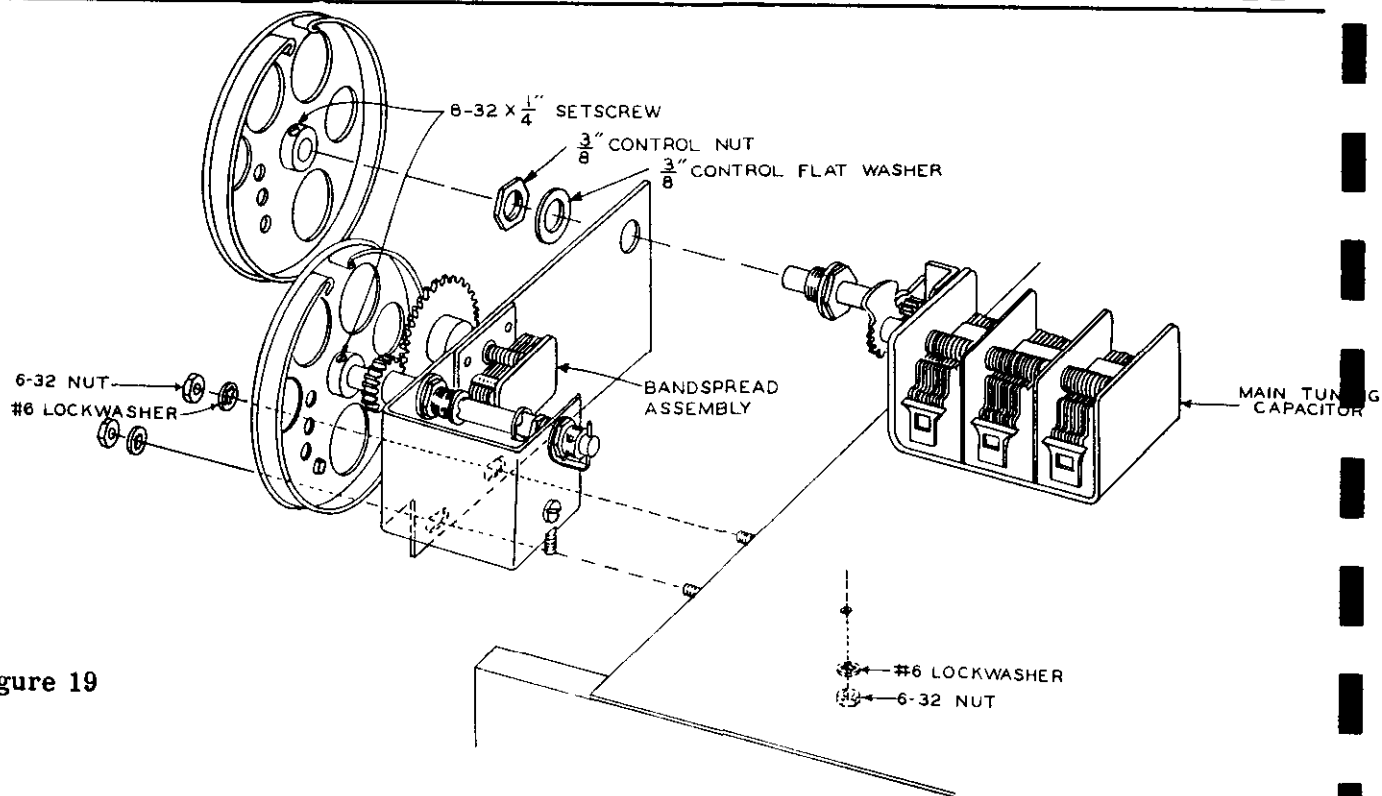

Figure 19
- (✓) Mount the bandspread bracket to the top plate and main frame, as shown in Figure 19. Place #6 lockwashers and 6-32 nuts on the two screws protruding through the slotted holes, and a #6 lockwasher and 6-32 nut on the spade lug. Align the bracket so that the bandspread pulley is parallel to the chassis partition, and the main tuning capacitor shaft horizontally centered in the elongated bracket hole. Push the main tuning capacitor bushing forward into the hole and lightly secure with a 3/8" control flat washer and nut. Now tighten the three 6-32 nuts and main tuning capacitor bushing. It is important at this time that both tuning shafts turn freely. It may be necessary to loosen and reposition the bracket, bushing, or three tuning capacitor mounting screws to accomplish this, but the effort is very worth while if smooth operating performance is to be expected.
- (✓) See Figure 19 and place an 8-32 x 1/4" Allen head setscrew in one of the 3" dial string pulleys. Install this pulley, hub first, on the main tuning capacitor until the shaft protrudes about 1/4" from the bushing. With the capacitor fully closed, the slot in the pulley ring should be at the top.